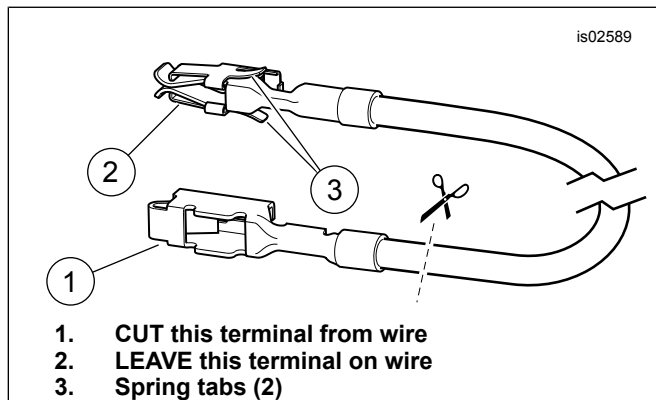

Figure 7. Fuse Block Adapter Wire (Dyna and Softail)
- See Figure 16. Get the orange/white fuse block adapter wire (15) from the kit. Note the terminal on each end (See Figure 7.). Only the terminal with the spring tabs fits into this fuse block. Carefully cut the unused terminal from the wire and discard it.
- See Figure 16. Get the orange/white fuse block adapter wire (15) from the kit. Note the terminal on each end (see Figure 7). Only the terminal with the spring tabs fits into this fuse block. Carefully cut the unused terminal from the wire and discard it.